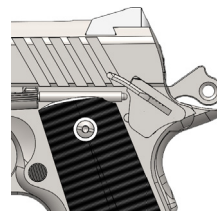

Figure 13
- Once the slide is fully forward, engage the slide lock safety in the SAFE position – see Figure 13.